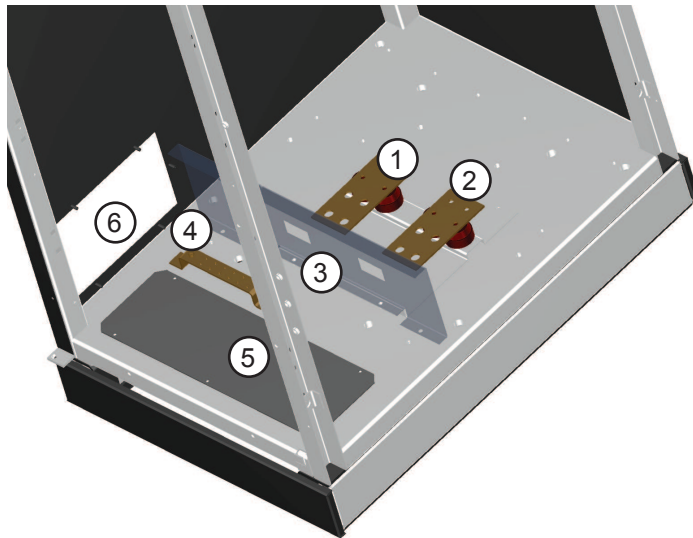
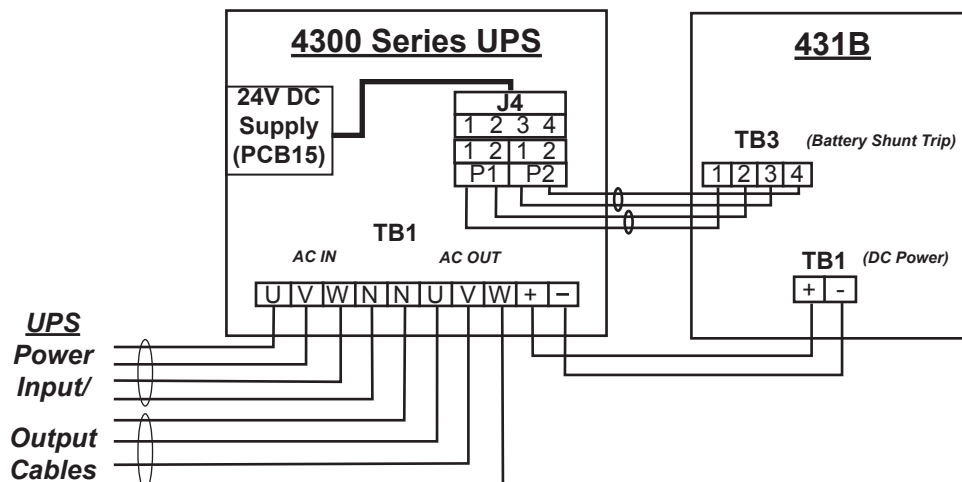

Figure 11-5 - 431B DC Bus Terminal Detail
Figure 11-6 - 431B DC and Breaker Cable Connections
2. Run the power cables from UPS power terminals TB1 (+) and (-) to 431B Cabinet power terminals (+) and (-) per Figure 11.5 and 11.6.
4. Run the power cables from UPS power terminals TB1 (+) and (-) to 431B Cabinet power terminals (+) and (-) per Figure 11.5 and Figure 11.6.